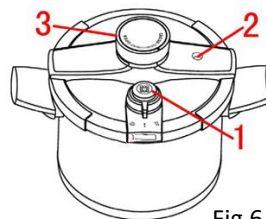

Fig.6
- ✂ Using our products to feel at ease, we designed and equipped multi-device for safety. (Fig. 6)
- 2. Setting multi-device ensures pressure cooker working normally. (Fig. 6)